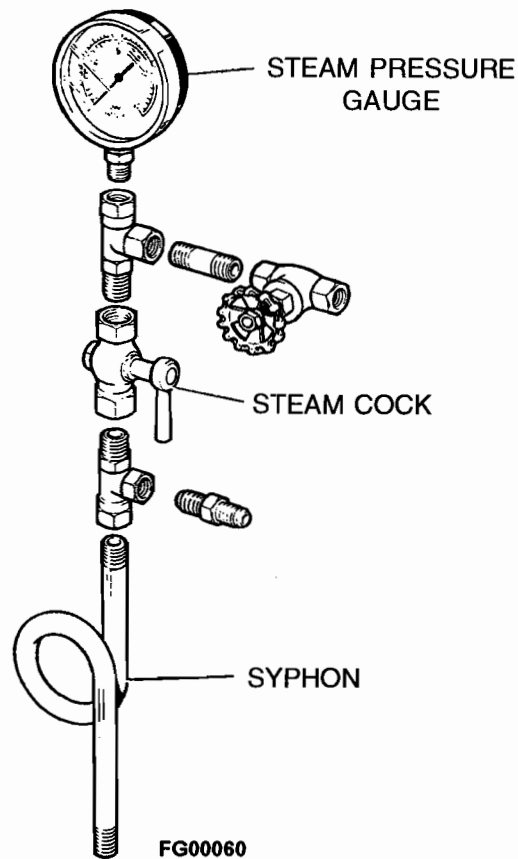

FIG. 5 STEAM PRESSURE GAUGE
2.12 STEAM PRESSURE GAUGE (Fig. 5)
The steam pressure gauge assembly should be assembled in accordance with **Fig. 5** using a suitable sealant on all joints.